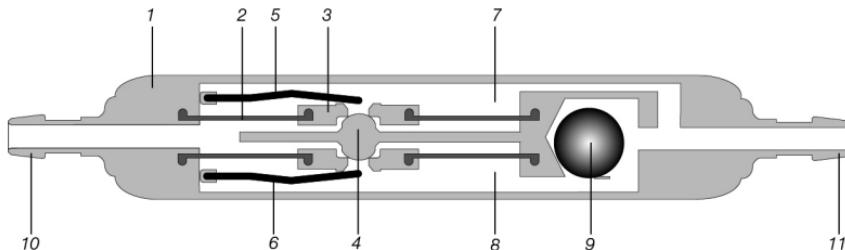

Fig. 1: Schematic cross-section of the DUALSWITCH VALVE
The DUALSWITCH VALVE was developed with the aim to avoid known problems (blocked drainage system, overdrainage, influence of the subcutaneous pressure) in the treatment of hydrocephalus. The DUALSWITCH VALVE features two parallel chambers, one for the patient vertical and one for the horizontal position. Fig. 1 shows a schematic cross section of the DUALSWITCH VALVE. The robust titanium casting (1) contains two titanium discs (3) connecting